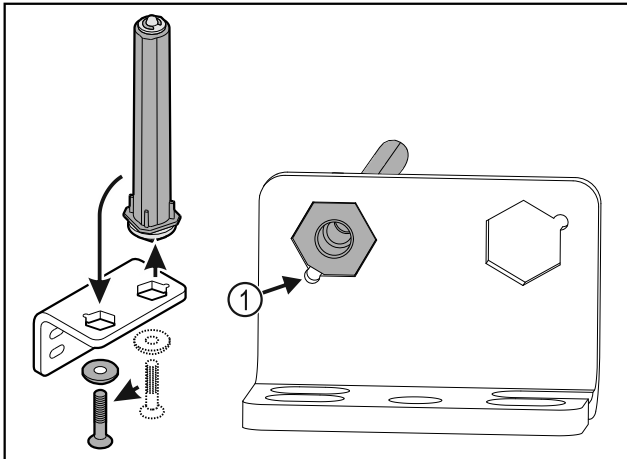

Fig. 15
- Make sure the pin chamfer Fig. 15 (1) faces the round hole when you put it in.